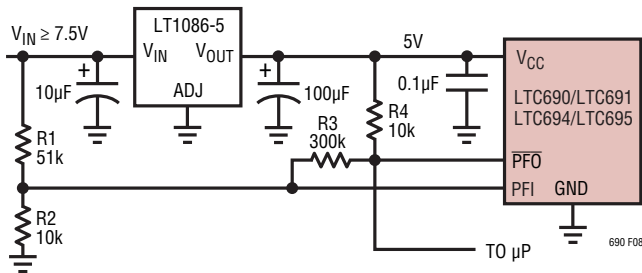

Figure 8. Monitoring Unregulated DC Supply with the LTC690's Power-Fail Comparator
The LTC690 family generates a Power Failure Output ( $\overline{\text{PFO}}$ ) for early warning of failure in the microprocessor's power supply. This is accomplished by comparing the Power Failure Input (PFI) with an internal 1.3V reference.  $\overline{\text{PFO}}$  goes low when the voltage at the PFI pin is less than 1.3V. Typically PFI is driven by an external voltage divider (R1 and R2 in Figures 8 and 9) which senses either an unregulated DC input or a regulated 5V output. The voltage divider ratio can be chosen such that the voltage at the PFI pin falls below 1.3V several milliseconds before the 5V supply falls below the maximum reset voltage threshold 4.75V.  $\overline{\text{PFO}}$  is normally used to interrupt the microprocessor to execute shutdown procedure between  $\overline{\text{PFO}}$  and  $\overline{\text{RESET}}$  or RESET.
The power-fail comparator, C3, does not have hysteresis. Hysteresis can be added however, by connecting a resistor between the  $\overline{\text{PFO}}$  output and the noninverting PFI input pin as shown in Figures 8 and 9. The upper and lower trip points in the comparator are established as follows:
**Example 1:** The circuit in Figure 8 demonstrates the use of the power-fail comparator to monitor the unregulated power supply input. Assuming the rate of decay of the supply input  $V_{\text{IN}}$  is 100mV/ms and the total time to execute a shutdown procedure is 8ms. Also the noise of  $V_{\text{IN}}$  is 200mV. With these assumptions in mind, we can reasonably set  $V_L = 7.5V$  which 1.25V greater than the sum of maximum reset voltage threshold and the dropout voltage of LT1086-5 (4.75V + 1.5V) and  $V_{\text{HYSTERESIS}} = 850mV$ .